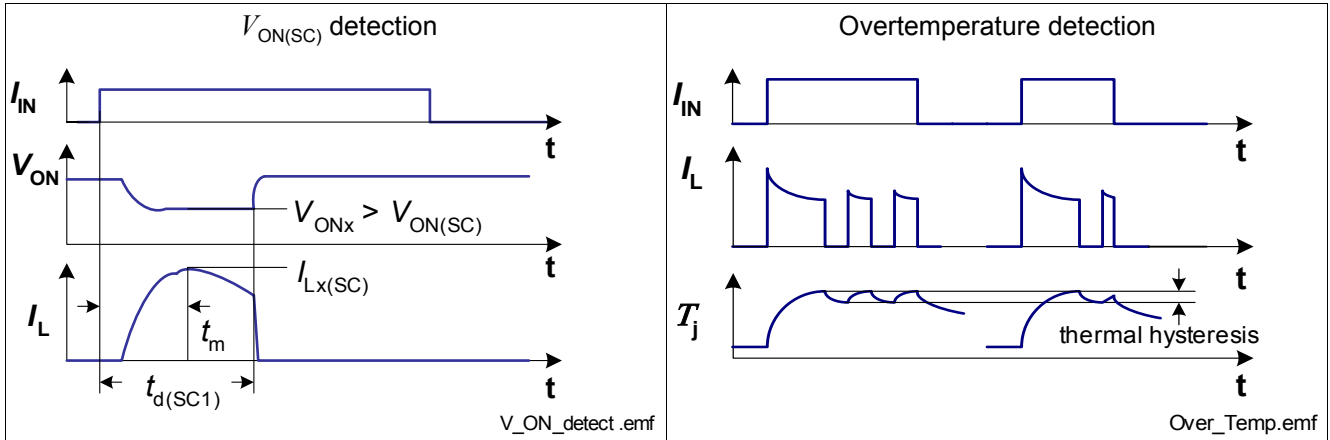

Figure 12 Overload Behavior
In the event that either the short circuit detection via $V_{ON(SC)}$ is not activated or that the on chip temperature sensor senses overtemperature before the blanking time $t_{d(SC1)}$ expired, the device switches off resulting from overtemperature detection. After cooling down with thermal hysteresis, the device switches on again. The device will react as during normal switch on triggered by the input signal. Please refer to Figure 12 and Figure 19 for details.
- 2) Short circuit current limit for max. duration of $t_{d(SC1)}$, prior to shutdown, see also Figure 12.